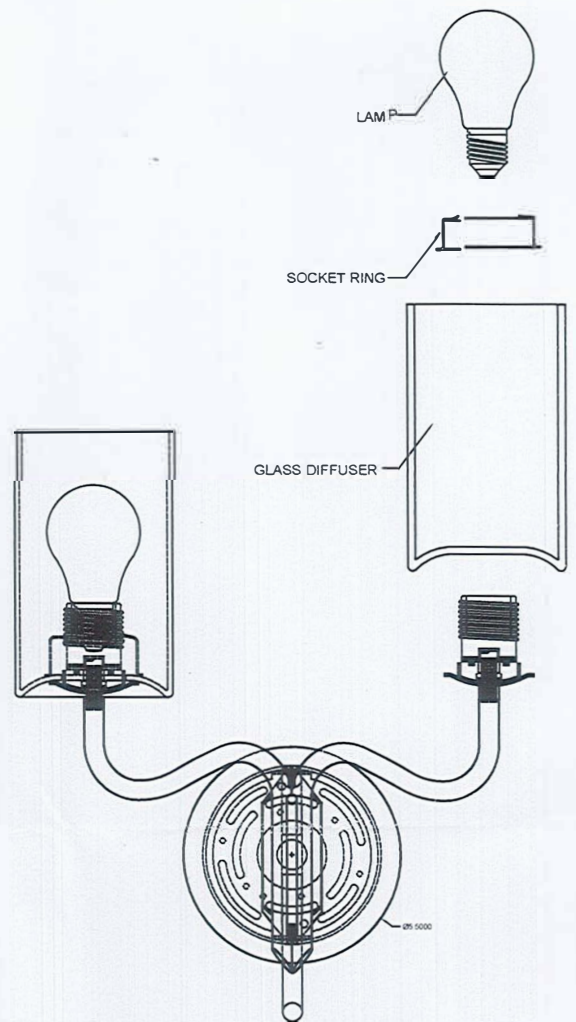

FIGURE-03
- Attach the glass diffuser on arm of the fixture and secure with the socket ring(See Figure-03).